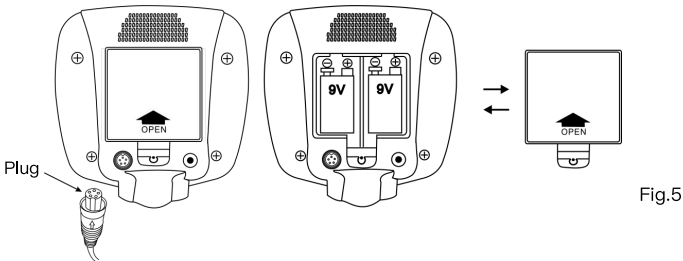

Fig.5
5. Wind the cable of the search coil around the aluminum stem, elastic moderate, and let it not sway. plug the cable plot into the lower right of the control box, aim at the slot, plug into the end, and tighten the screw. (see Fig.5) Note do not pull the cable, pull the plug.
Open the cover of the battery box and install the battery according to the polarity sign in the battery box, If you are not going to use the detector for a long time, please remove the battery from the battery box. (see Fig.5)